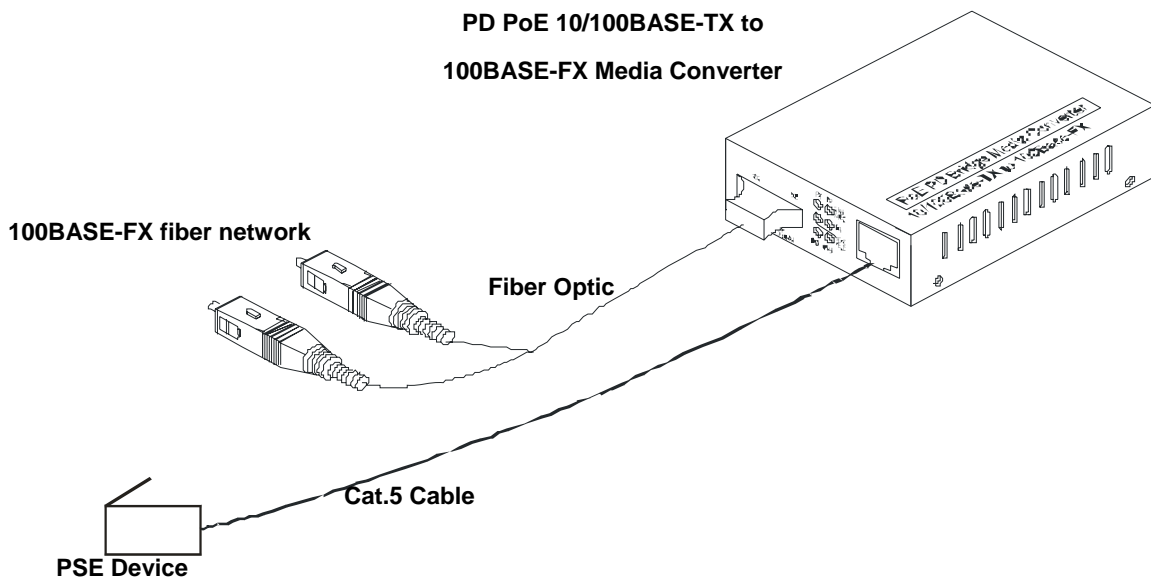

Figure 3-1 Connection among PSE PoE Converter and TP Cables
1. Install the TP media cable to the IEEE 802.3af PSE device or PoE injector. (See Figure 3-1)